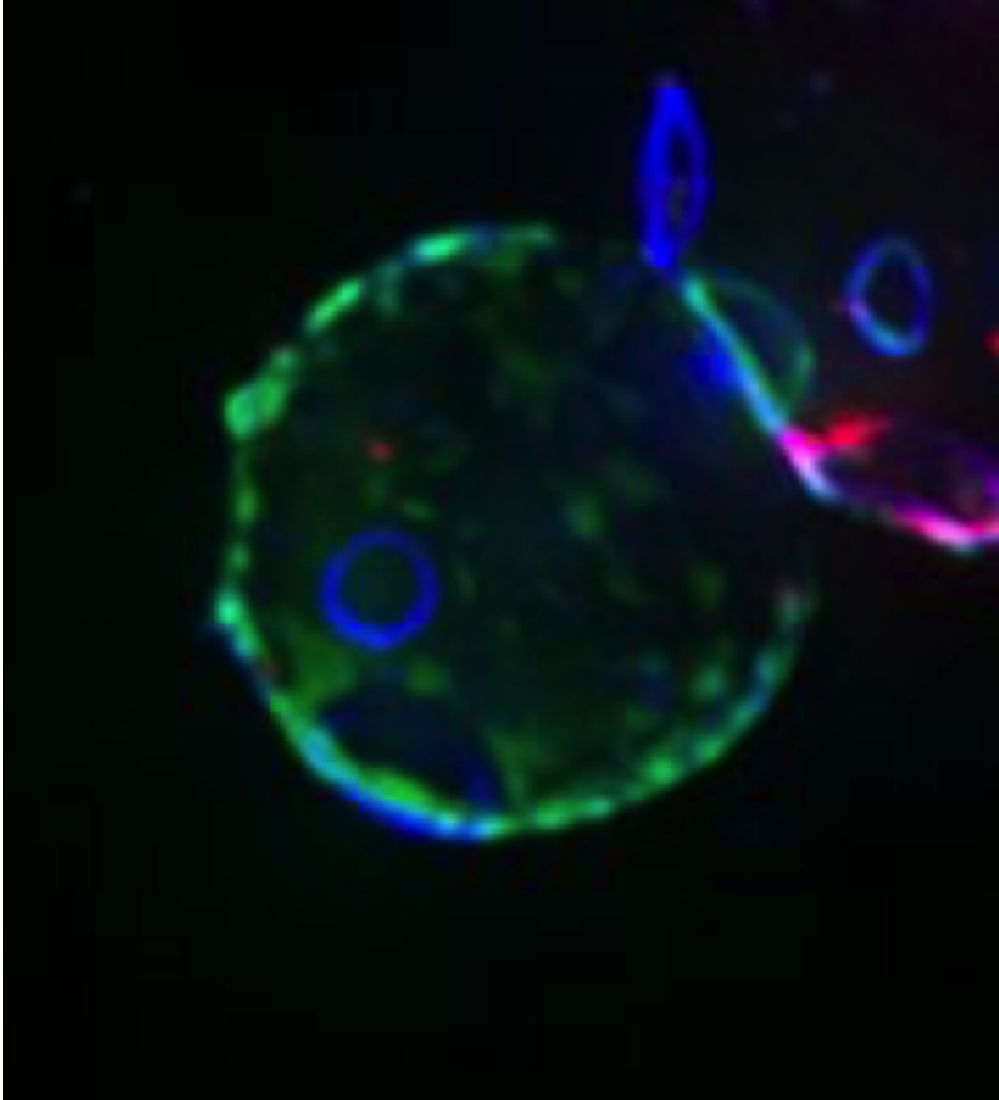

Figure 4: This cell below would get an “NA” for the green, but not the blue channel or red channels.
- If the cell has lysed or is otherwise too bright to count bud scars in a channel, record an NA in that channel (cf Fig. 4).